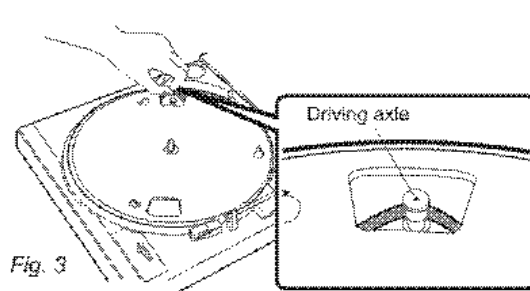

Fig. 3
- 4 The rubber driving belt is visible through the cutouts of the turntable platter. Seize the driving belt and place it over the driving axle (Fig. 3).